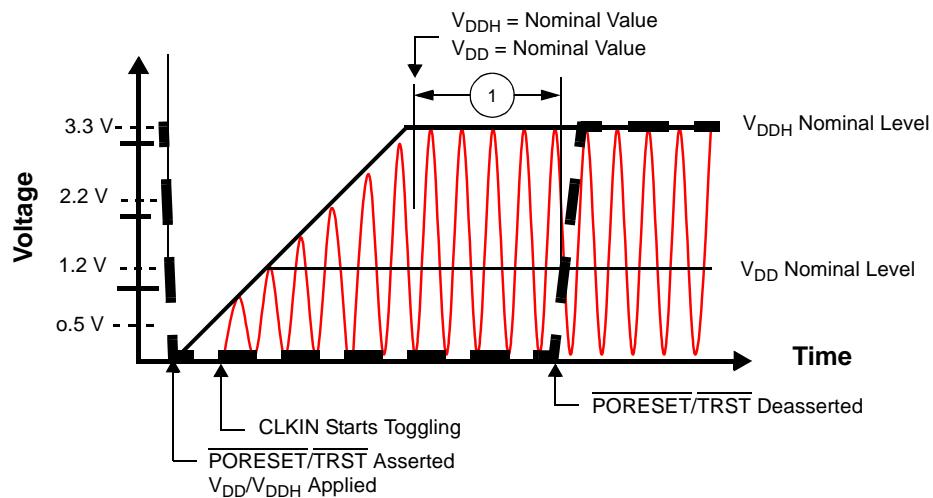
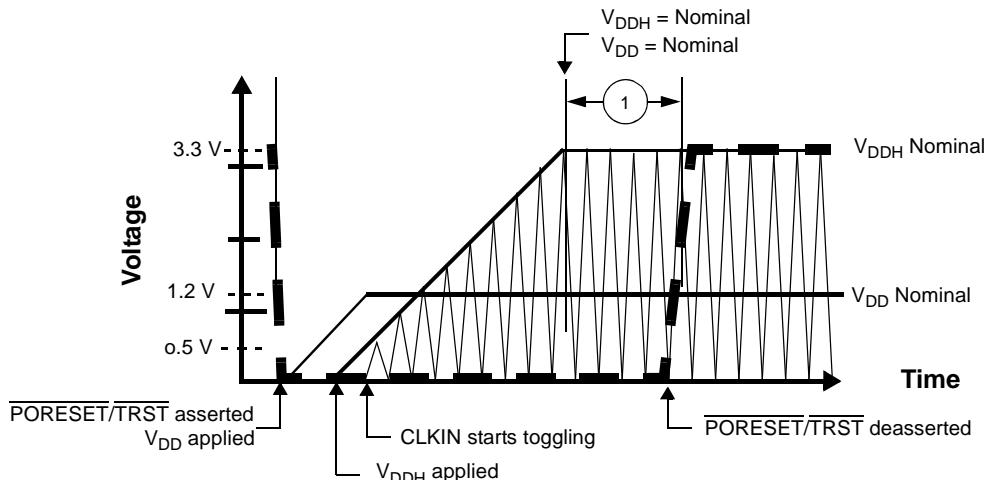

Figure 6. Start-Up Sequence: V_{DD} and V_{DDH} Raised Together
Figure 7. Start-Up Sequence: V_{DD} Raised Before V_{DDH} with CLKIN Started with V_{DDH}
- If possible, bring up the V_{DD} and V_{DDH} levels together. For designs with separate power supplies, bring up the V_{DD} levels and then the V_{DDH} levels (see **Figure 7**).
- $CLKIN$ should start toggling at least 16 cycles (starting after V_{DDH} reaches its nominal level) before $\overline{PORESET}$ deassertion to guarantee correct device operation (see **Figure 6** and **Figure 7**).
The following figures show acceptable start-up sequence examples. **Figure 6** shows a sequence in which V_{DD} and V_{DDH} are raised together. **Figure 7** shows a sequence in which V_{DDH} is raised after V_{DD} and $CLKIN$ begins to toggle as V_{DDH} rises.